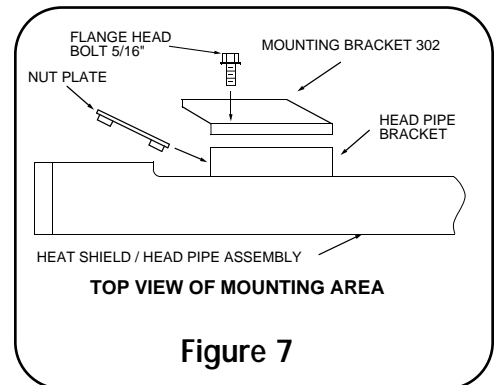

Figure 7
7. Slide nut plate inside bracket that is welded to backside of head pipe. While holding nut plate in place attach head pipe to mounting bracket 302 using two 5/16" flange head bolts (supplied). Leave them loose at this time. (Figure 7). Repeat steps six and seven for rear head pipe / heat shield assembly.